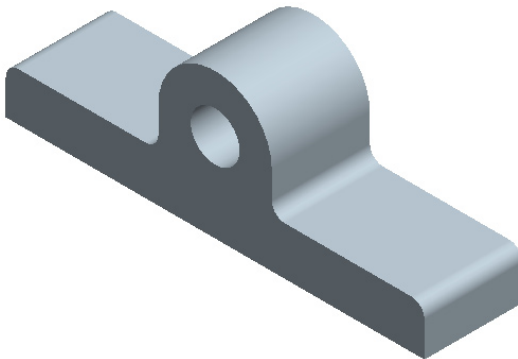
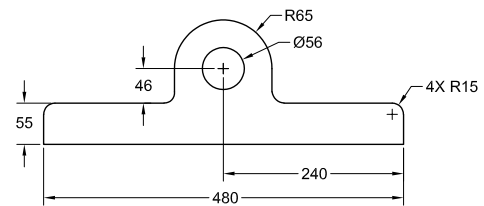

Figure 3-34 Model for Tutorial 3
Figure 3-35 Sketch of the model
In this tutorial, you will draw the sketch of the model shown in Figure 3-34. The sketch is shown in Figure 3-35. (Expected time: 30 min)
4. Modify all dimensions. Refer to Figure 3-35 for dimension values.